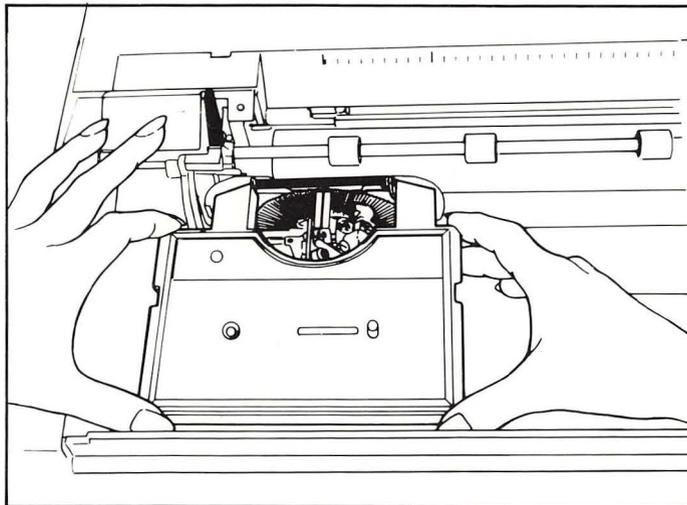

Figure 8. Ribbon Path
3. Hold the cartridge level, and slip the ribbon between the two wire-like guide pins and the plate holding them. The ribbon should pass between the print wheel spokes and the platen. Refer to Figure 8.